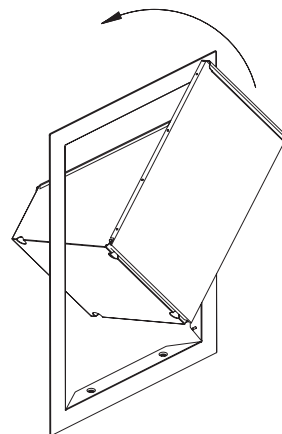

Figure 3
4. Once located inside the BBA Frame, rotate the BBA Door to the upright position. See Figure 3.